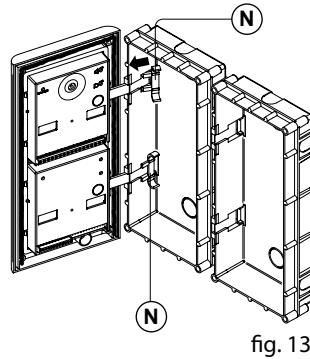

fig. 13
2. Continue from step **4** of surface mounting instructions , but at step **7** hook the hinge locks **N** as shown on **Fig. 13**.